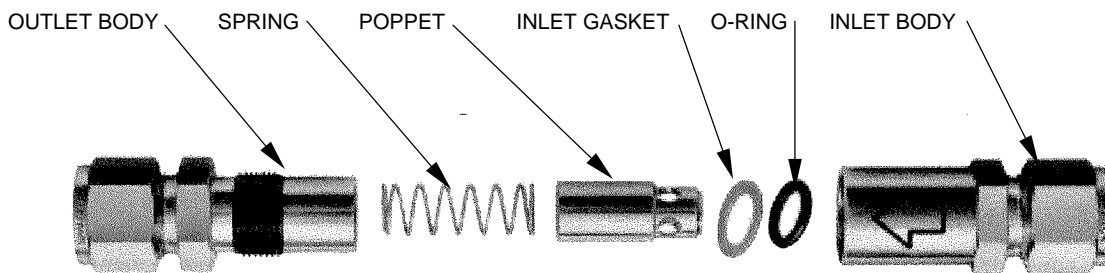

Figure 6-17. C Series Check Valve (Models B-8C4-1/3 and B-16C4-1/3)
**6-6.8 SYSTEM CHECK VALVES.** Check valves, by design, allow fluid flow in only one direction. The in-line check valves are designed to positively control the fluid flow with a minimum flow reduction due to obstructions within the valve (see Figure 6-17, and Tables 6-12 and 6-13). Refer to sections 6-6.8.1 through 6-6.8.3 for removal, repair, and installation procedures.